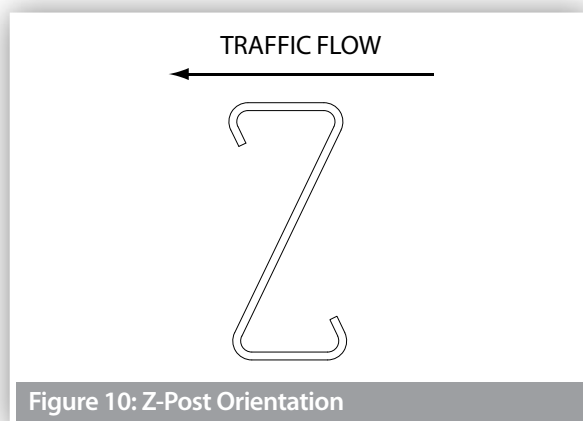

Figure 10: Z-Post Orientation
3. The post in relation to the direction of traffic is orientated as per Figure 10 and 11.